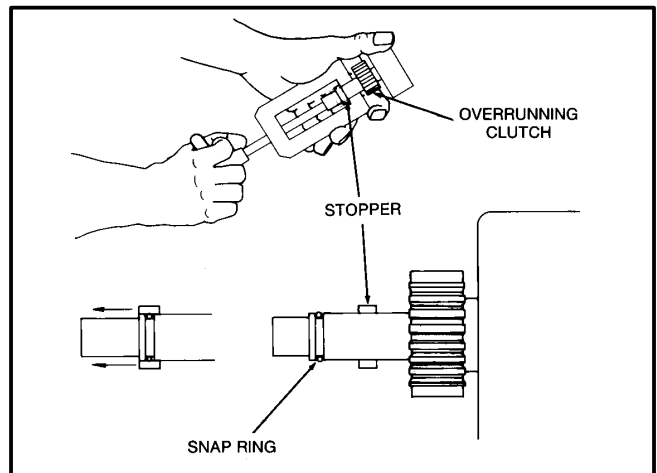

FIGURE 9-3. INSTALLING STOPPER
5. Pull the stopper all the way over the snap ring as shown in Figure 9-3. It may be necessary to tap the snap ring into the groove with a punch while maintaining tension on the stopper.